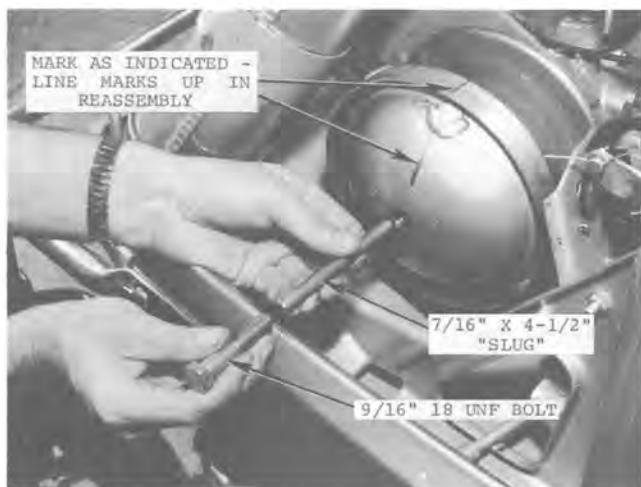

Fig. 8 - Removing Drive Pulley
3. Insert a (7/16" x 4-1/2") "slug" in place of retaining bolt and thread a (9/16"-18 UNF) BOLT into pulley, using it as a puller. See Fig. 8.